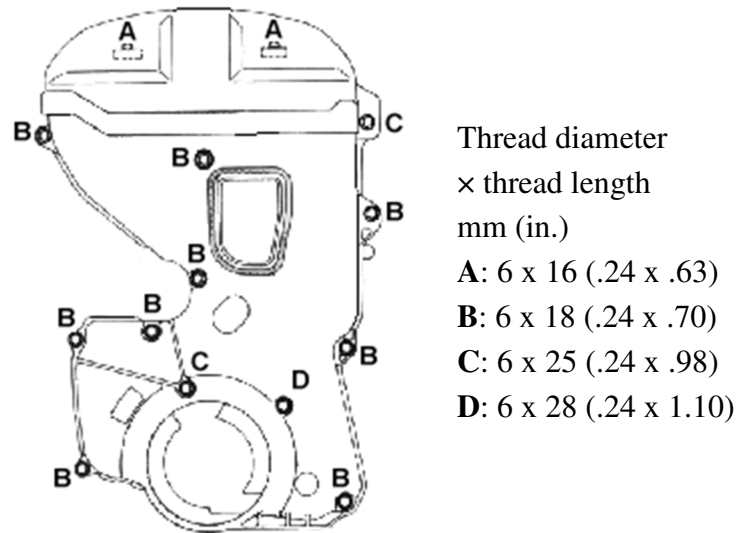

Figure 19
44. Install the upper and lower timing belt covers as shown in Figure 19. (Rotate the bottom of the lower cover toward the rear to assist in clearing the water pump).
45. **Note that timing cover bolts vary in length. Make sure that the proper size bolts are installed in the correct hole locations. (Figure 19)**